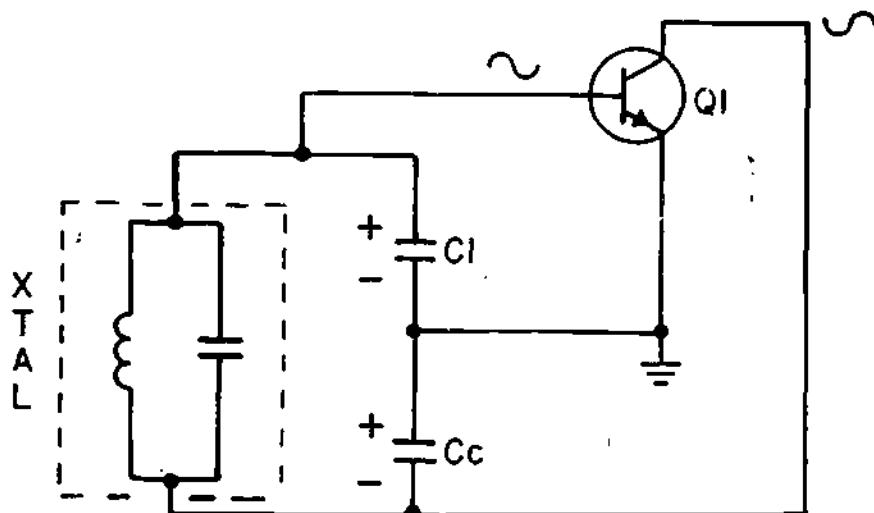

Figure 13
- (14.) Let's continue our discussion of the AC equivalent Pierce oscillator circuit. Figure 13 repeats the circuit shown in Figure 12.